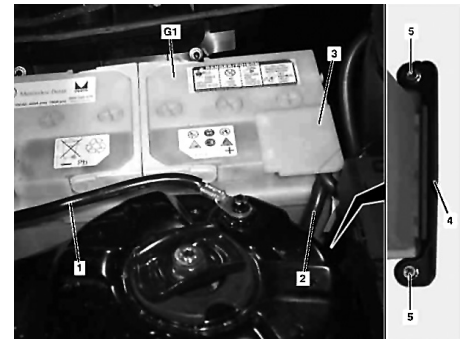

Fig. 1 Battery removal. Less P98 Black series
4. Detach ground cable (1) from battery, Fig. 1.
5. Remove positive terminal cover (3), Fig. 1.
6. Detach positive cable (2) from battery, Fig. 1.
7. Remove battery mounting nuts (5), Fig. 1.
8. Remove battery mounting bracket (5), Fig. 1.
2. Install battery mounting bracket (5), Fig. 1.
3. Install battery mounting nuts (5), Fig. 1.
4. Attach positive cable (2) to battery, Fig. 1.
5. Install positive terminal cover (3), Fig. 1.
6. Attach ground cable (1) to battery, Fig. 1.